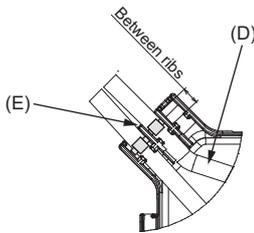

Fig. 5-6
**When installing the covers, make sure that the wires do not get pinched. Fit the band securing the junction wires between the ribs on the connector box as shown in the diagram. (Fig. 5-6)**